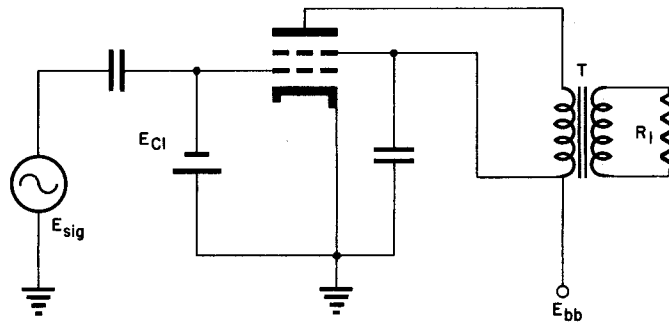

FIGURE 2
The illustration on use of curves presented here assumes that (1) fixed bias is used, (2) the load is resistive, (3) that good screen and plate regulation are used, (4) that rectification effects are negligible, (5) that a high efficiency output transformer is used and has been selected to present the proper load to the tube, (6) that the voltage drop in the primary of the output transformer is negligible, (7) the applied signal is sinusoidal. Despite these assumptions, reasonably good approximations may be obtained about the performance of the tube described as Class A1 audio power output amplifier. Figure 2 shows one possible power amplifier circuit that could be used for a beam power tube applicable to the example given. The power supplied to the speaker will be less than that calculated by the amount of transformer efficiency.